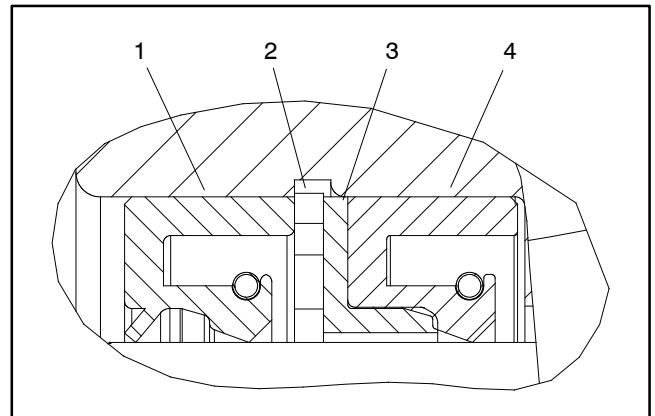

Figure 92
11. Carefully remove dust seal, retaining ring, flange washer and shaft seal from the front flange. Note orientation of seal lips during removal (Fig. 92). Discard removed seals.
2. Install new seals into front flange. Note orientation of seal lips during installation (Fig. 92):